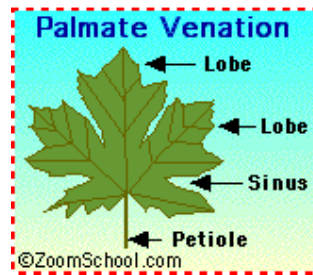

Figure 12.
**PALMATE VENATION** has the main veins arising from a point at the base of the leaf. Refer to Figure 12.